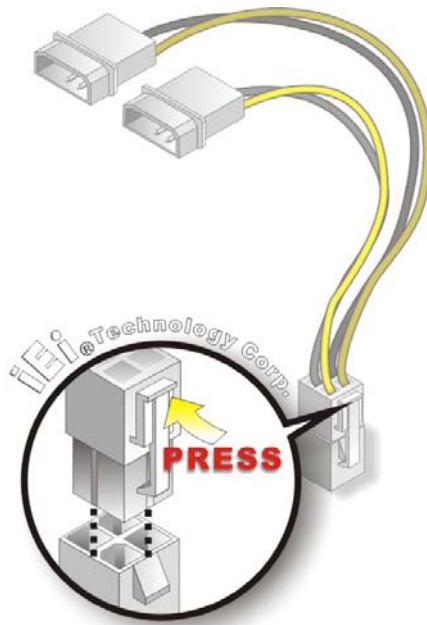

Figure 4-11: Power Cable to Motherboard Connection
Step 2: **Connect the Power Cable to the Motherboard.** Connect the 4-pin (2x2) Molex type power cable connector to the AT power connector on the motherboard. See Figure 4-11.